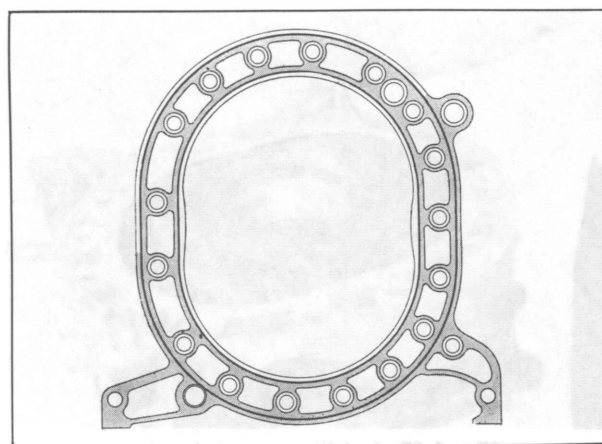

Fig. 1-93 Applying sealing agent
1. Apply sealing agent to the rear side of the rear rotor housing, as shown in Fig. 1-93. Be careful not to let the sealing agent penetrate into the cooling water circuits or oil circuits.